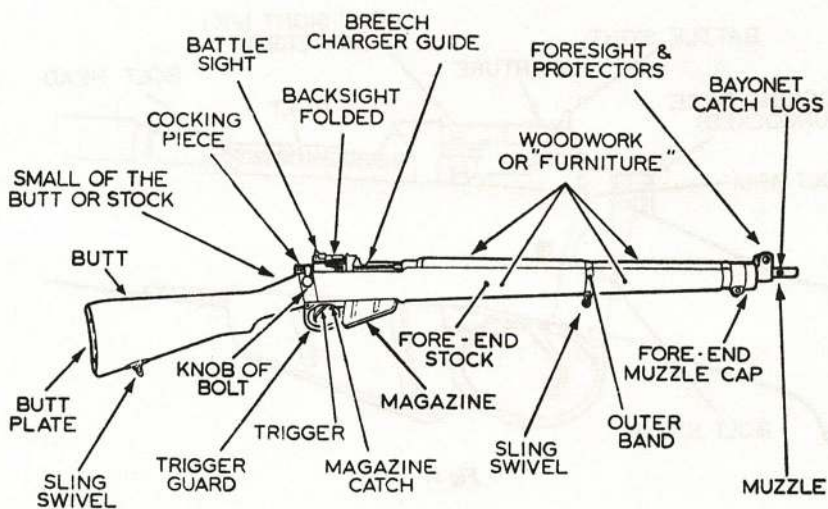

Fig 1.
10. Name the parts. (Fig 1, 2, 3 and 4)